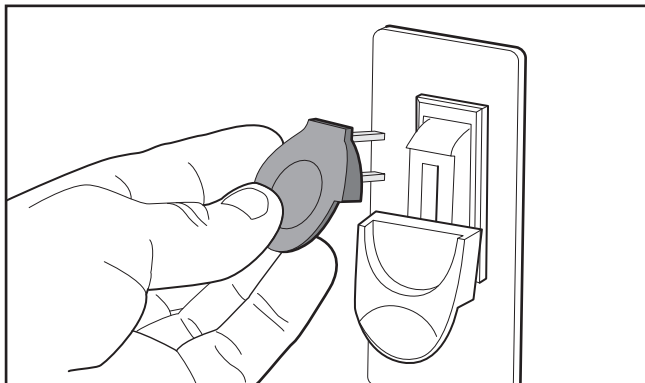

Figure 14. Example of removing switch key from paddle switch.
6. Remove the switch disabling key, as shown in **Figure 14**.